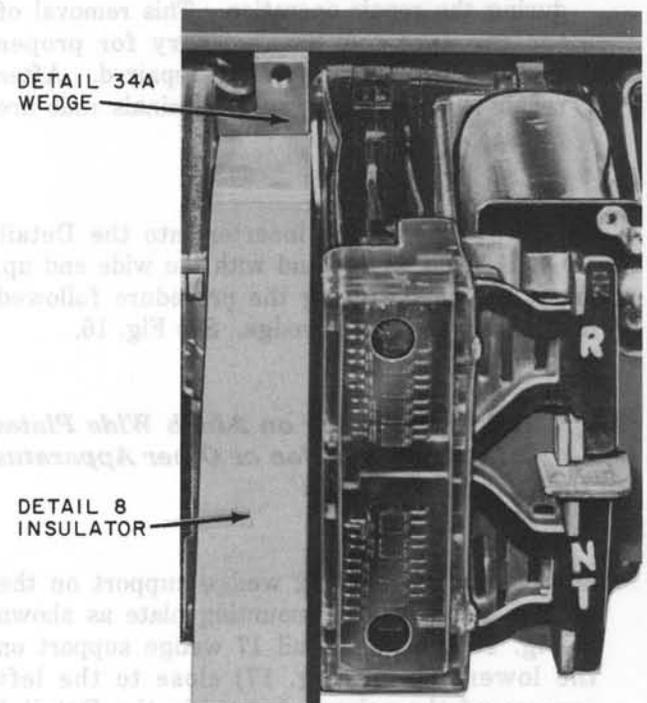

Fig. 16—Details 34A and 34B Wedges in Place With Detail 8 Insulators (34B not shown)
- Place Detail 8 insulator over the winding terminals of the relay to the left of the relay being repaired. Place with the 1/8-inch long leg in an up position on the upper terminal and in a down position on the lower terminal. See Fig. 16.
of the relay to its left. See Fig. 16. After the wedge is firmly in place, unscrew the wedge inserter.
- (c) Screw the wedge inserter into the Detail 34B lower wedge and with the wide end up, insert the wedge using the procedure followed in inserting the upper wedge. See Fig. 16.